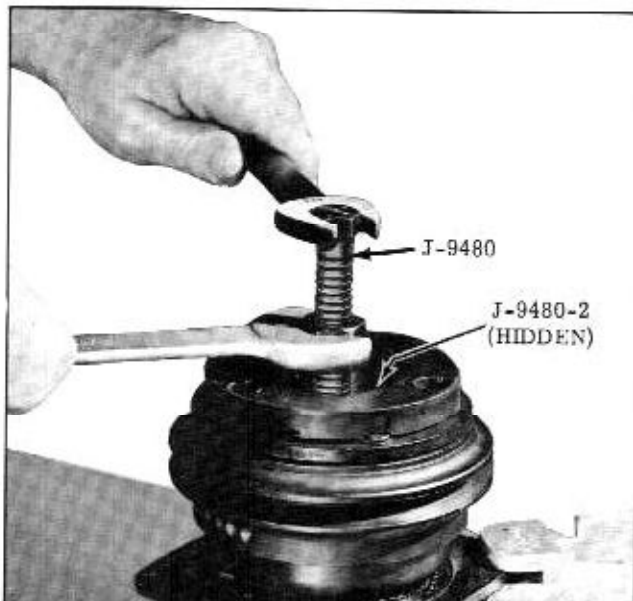

Fig. 14-22 Installing Driven Plate
3. Position the Driven Plate Installing Tool J-9480 on the threaded end of the shaft. The "Free" Washer, J-9480-2, should be in place under the hex nut on the tool. This tool has a lefthand thread on the body. (Fig. 14-22).